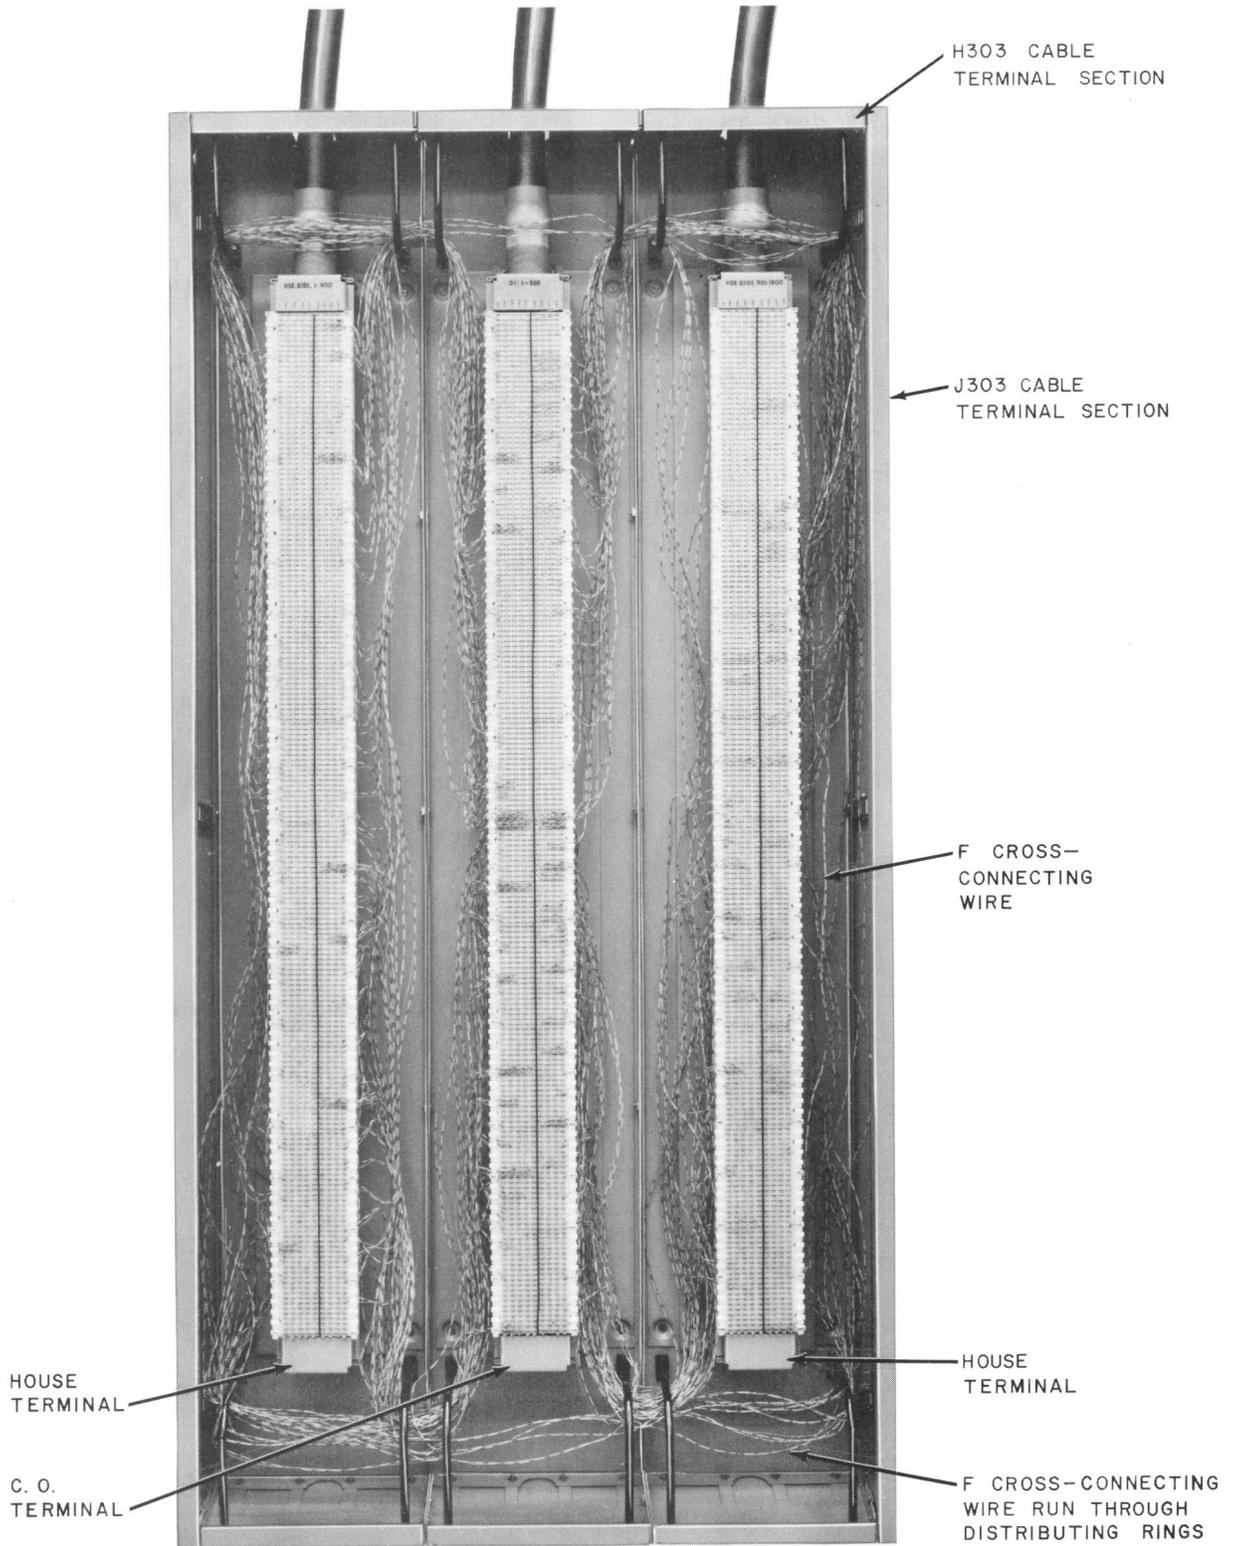

Fig. 16—Main Terminal With 5A Terminal Mounted in Cabinet
3.05 The 5A-type terminal block mounted in H303 Cable Terminal Sections for mechanical protection is illustrated in Fig. 16. The cross-connecting wires from the central office terminals are split with 60 percent of the cross-connecting wires routed through the top wiring rings and 40 percent routed through the bottom wiring rings.
3.06 Using the 714B Tool terminate the cross-connecting wire to the assigned central office cable pair, then route the cross-connecting wire to the assigned building cable pair as shown in Fig. 16. Connect to the assigned building cable pair.